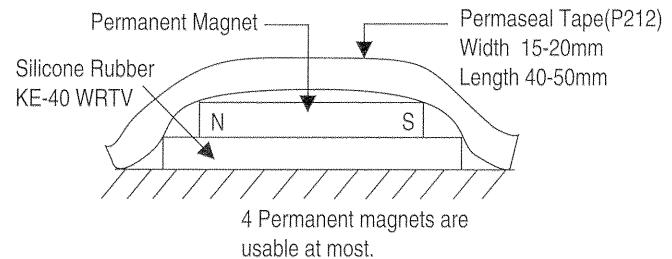

Fig. 2-8 CPT Funnel
- (13) To improve the miss landing mentioned above, it's acceptable to stick the permanent magnet to CPT funnel (Fig. 2-7, Fig. 2-8).